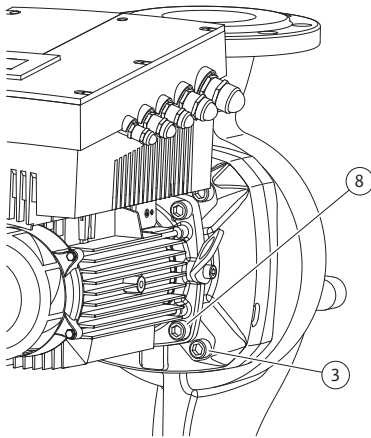

Fig. 46: Optional fixation of the motor impeller unit
11. Loosen and remove the screws (Fig. 7, Item 3). Depending on the pump type, the outer screws (Fig. 46, Item 3) are to be taken out. The motor impeller unit (see Fig. 13) remains securely in the pump housing after the removal of the screws; there is no danger of tipping even in the horizontal position of the motor shaft.
16. Depending on the pump type, loosen the screws (Fig. 7, Item 10) or alternatively, the screws (Fig. 46, Item 8).
when doing this (see chapter 7.1 “Permitted installation positions and change of the arrangement of components before the installation” on page 21). Attach the lantern with the screws (Fig. 7, Item 10) **or** – for the pump/lantern types in accordance with (Fig. 46) – with the screws (Fig. 46, Item 8) at the motor flange.